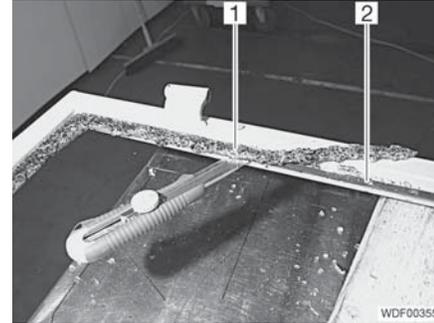

Fig. 375 Glass and residual beading
- Cut open the adhesive between the glass remains (Fig. 375,1) and the door.
- Scrape off the residual beading (Fig. 375,2) so that it is smooth, leaving approx. 1 mm.